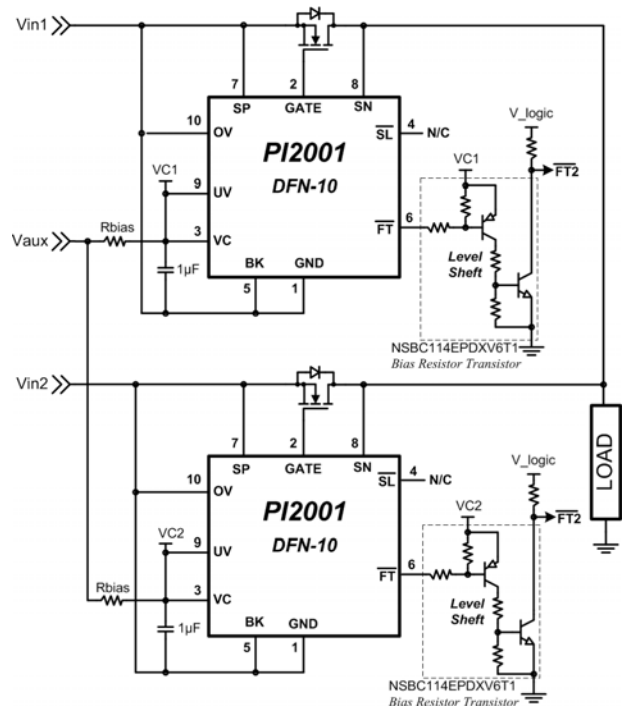

Figure 16: PI2001 in floating application: example 2
1. A single PI2001 with suitable external MOSFET for each redundant 12V power source should be used, configured in a high-side floating configuration as shown in the circuit schematic in Figure 16. The controller is floated on Vin by connecting the controller ground pin to the input voltage Vin.
7.  $\overline{FT}$  pin: The  $\overline{FT}$  pin output is referenced to the PI2001 GND pin which is connected to Vin. A level shift circuit can be added to make the  $\overline{FT}$  pin output referenced to the system ground. The recommended level shift circuit is shown in Figure 16, The level shift circuit uses a Dual Bias Resistor Transistor circuit which is available as a small device that contains two transistors and their bias resistors, part number NSBC114EPDXV6T1.